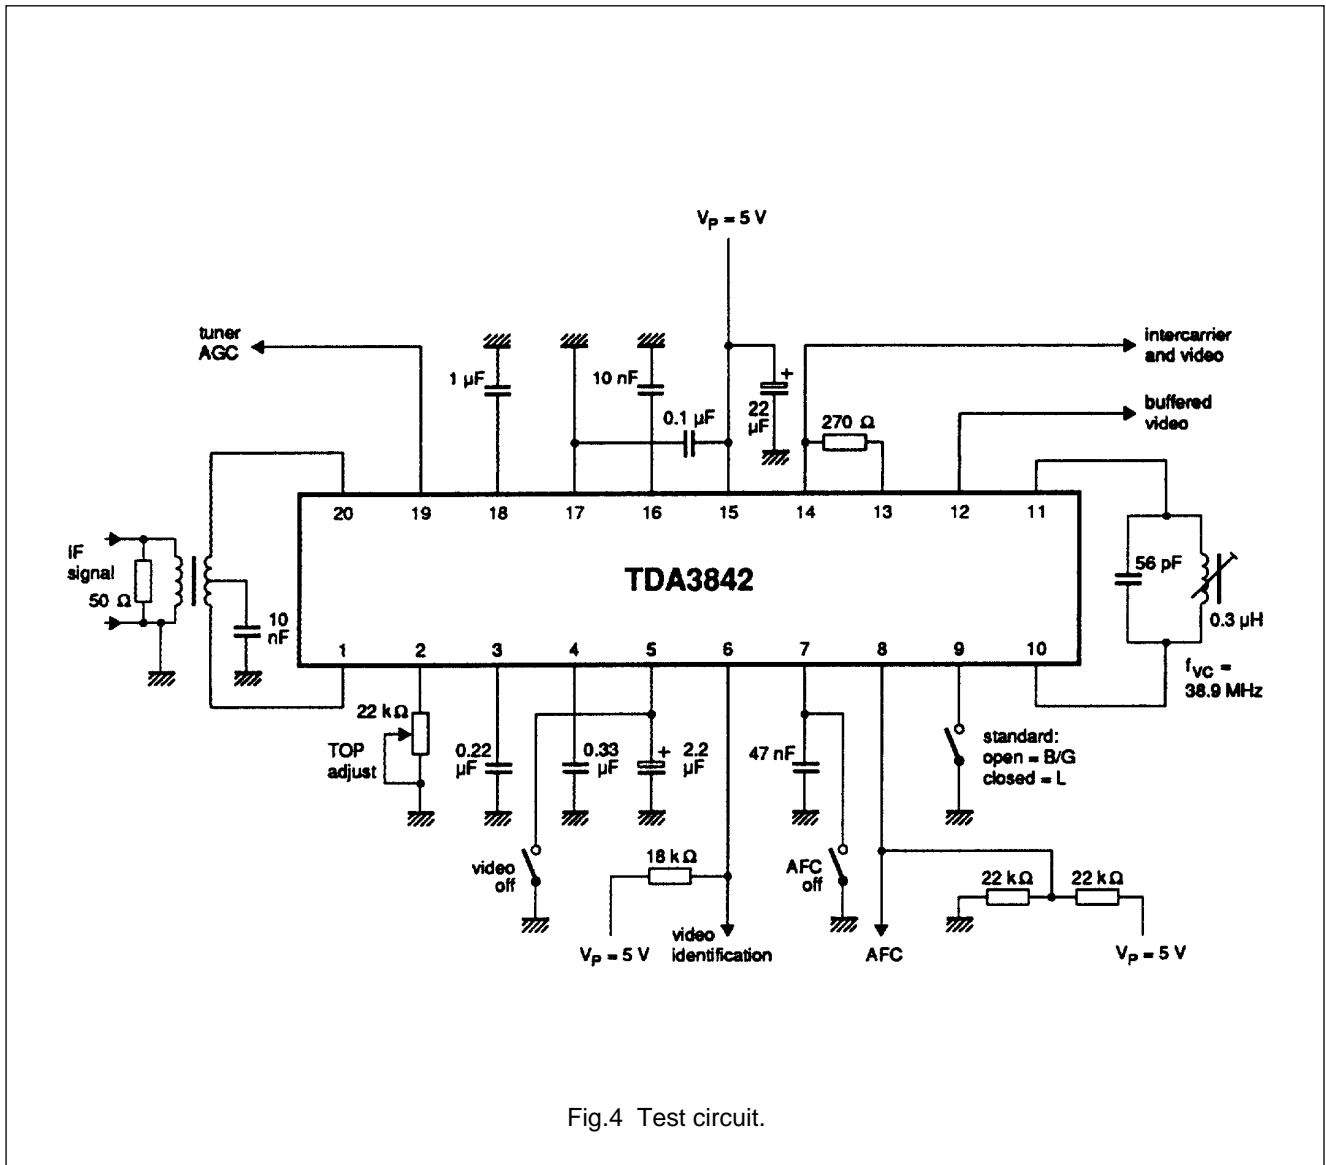

Fig.4 Test circuit.
4. IF input signals are RMS values measured at TOP sync (standard B/G) and with a vision carrier of 38.9 MHz (see Fig.4). The IF input signal is fed from  $50 \Omega$  via a 1:1 transformer, DSB, to pins 1 and 20. With a  $10 \text{ mV}_{\text{RMS}}$  IF input signal, the residual vision carrier is: = 10% for white (standard B/G), = 3% for sync (standard L).
5. In the test circuit of Fig.4, measured and weighted according to CCIR Recommendation 567: